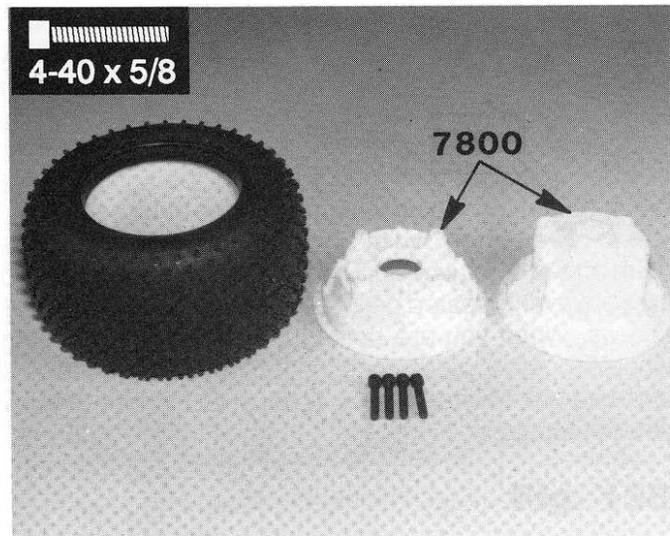

Fig. 150
□ **Figs. 150 & 151** Make sure the sleeves are centered in the tires. The inside half of the wheel has the big hole in the center. The inside halves of the front and rear wheels are exactly the same.